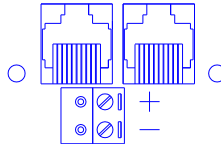

Fig. 5
Connect the sounder to the inputs on the Control Unit. Observe correct polarity. The sounder should have a maximum rating of 200mA. There are additional sounder outputs on the rear of the Display Panel (131-933) as shown in Fig 5. Observe correct polarity. NOTE: The NAC Alarm output may only be connected to either a 131-501 Control Panel OR to a 131-933 Display Panel due to fault monitoring requirements. A 1K Ohm EOL resistor must be placed at the notification appliance farthest away from the NAC Alarm output (Supervised). The Sounder's maximum current shall be less than 1 Amps RMS and the voltage shall be +24VDC +/- 4 VDC at a frequency of 0Hz (DC).